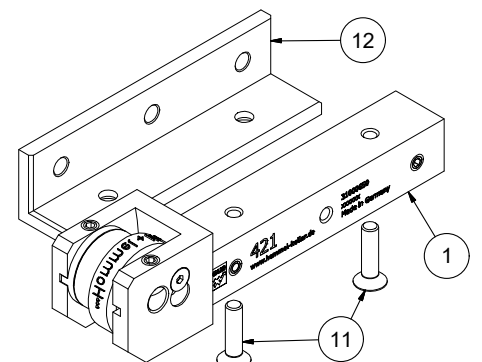

Figure 9: Shank adapter installation
With use of shank adapters, the tool can be used on all machines. For this purpose, fasten the supplied shank adapter (Fig. 9, pos. 12) with the accompanying countersunk screws (Fig. 9, pos. 11) on the base shank (Fig. 9, pos. 1).